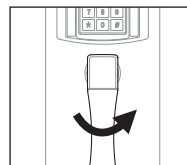

Figure 5
4. You will have 5 seconds to turn handle to the right, to retract the bolt into the unlock position. (Figure 5)